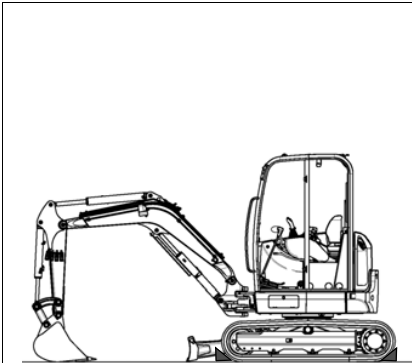

Fig. 163
10. Secure the vehicle with wheel chocks (see Fig. 163).